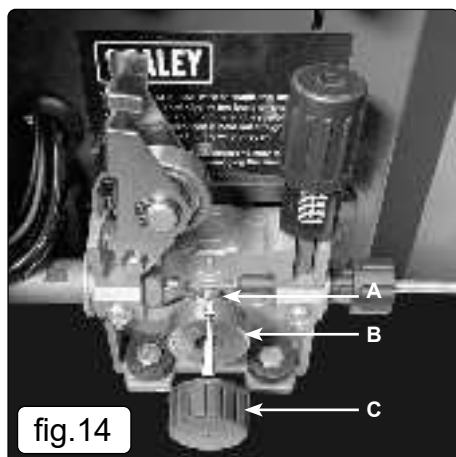

fig.14
#### 4.16. TURNING/CHANGING THE DRIVE ROLLER (See fig.14)
- 4.16.3. Referring to fig.14, loosen and unscrew the black feed roller retaining knob (C) and put to one side.